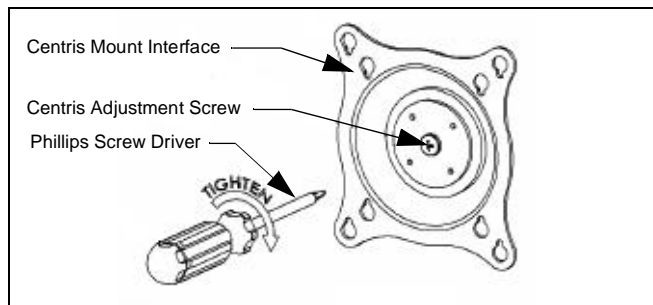

Figure 3: Tighten Centris Adjustment Screw
2. Using a Phillips Screwdriver, tighten Centris Adjustment Screw (see Figure 3).